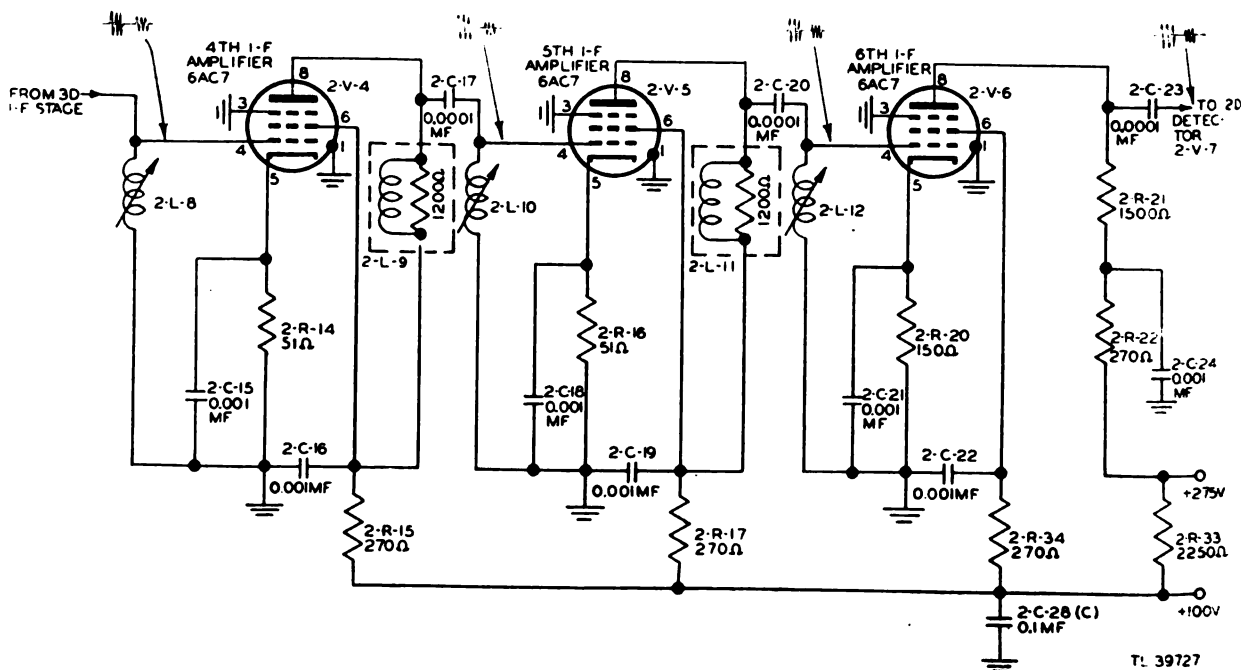

Figure 92. Fourth, fifth, and sixth i-f stages, simplified schematic diagram.
*j.* **FOURTH AND FIFTH I-F STAGES.** The inputs to the fourth and fifth i-f stages (2-V-4 and 2-V-5, 6AC7's, fig. 92) are capacitively coupled through 0.0001-mf capacitors 2-C-14 and 2-C-17, from the plates of the preceding tubes. The parallel-tuned coils 2-L-8 and 2-L-10, peaked at 30 mc, serve as the grid loads with their return to ground. Both tubes operate Class A self-bias with their bias obtained from 51-ohm cathode resistors 2-R-14 and 2-R-16. The plate loads 2-L-9 and 2-L-11 consist of 1,200-ohm resistors with a coil wound on them to resonate at the i-f frequency, tending to keep the plate voltage up while the
*k.* **SIXTH I-F STAGE.** The input to the sixth i-f amplifier (2-V-6, 6AC7, fig. 92) is from the plate of the fifth i-f tube through the 0.0001-mf coupling capacitor 2-C-20 to the grid. The grid load consists of parallel-tuned circuit 2-L-12 with the return to ground. The tube operates Class A self-bias from the 150-ohm cathode resistor 2-R-20. This resistor is approximately three times as large as the cathode resistors used in the preceding five i-f stages in order to develop more bias in this stage. The plate circuit of this last i-f stage is also different from that of the other i-f stages. The plate load consists of 1,500-ohm resistor 2-R-21. The plate voltage is obtained from the +275-volt source and is applied to the plate load through the 270-ohm decoupling resistor 2-R-22. The increased plate load and plate voltage boosts the signal to provide enough drive for the diode detector 2-V-7 (6H6). The over-all gain of the six i-f stages is approximately 1,000,000 or an average of 10 per stage.